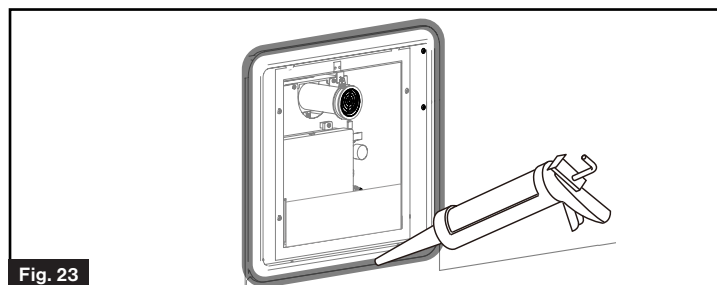

Fig. 23
3. Apply a liberal amount of sealant around the door frame to fill any gaps to the RV wall. (Fig. 23) Wipe any excess sealant.